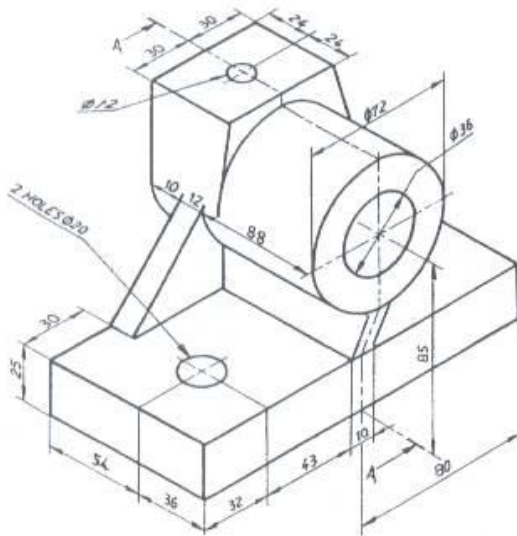

Fig 2(a)
- 2 a. The pictorial view of a machine component is shown in Fig.2(a). Draw the following views.